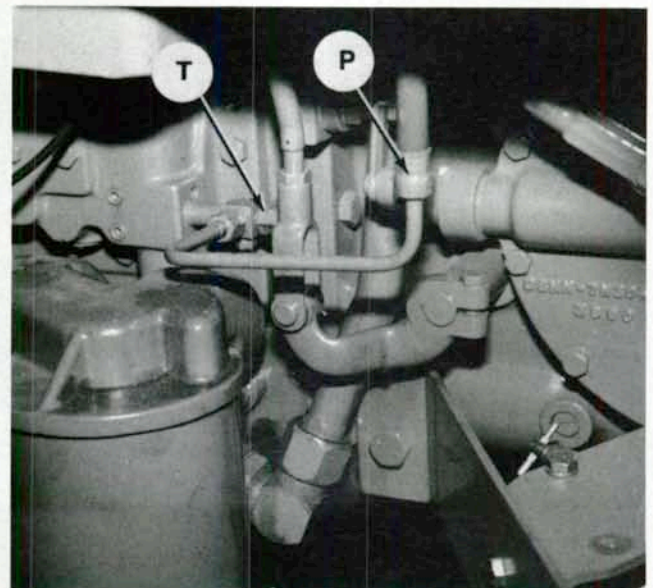

Fig. 251—Pto system pressure can be checked at tee fitting (T) on pto supply tube (P).
**182.** To check pto and differential lock system pressure, first operate tractor until oil in rear axle housing is at normal operating temperature. Stop engine and connect a 0-500 psi (0-3500 kPa) pressure gage at tee fitting on pto supply tube (Fig. 251). Start engine and set engine speed at about 1000 rpm; pressure gage reading should be 185-220 psi (1275-1515 kPa). Increase engine speed to 2200 rpm; pressure reading must be 185-235 psi (1275-1620 kPa).